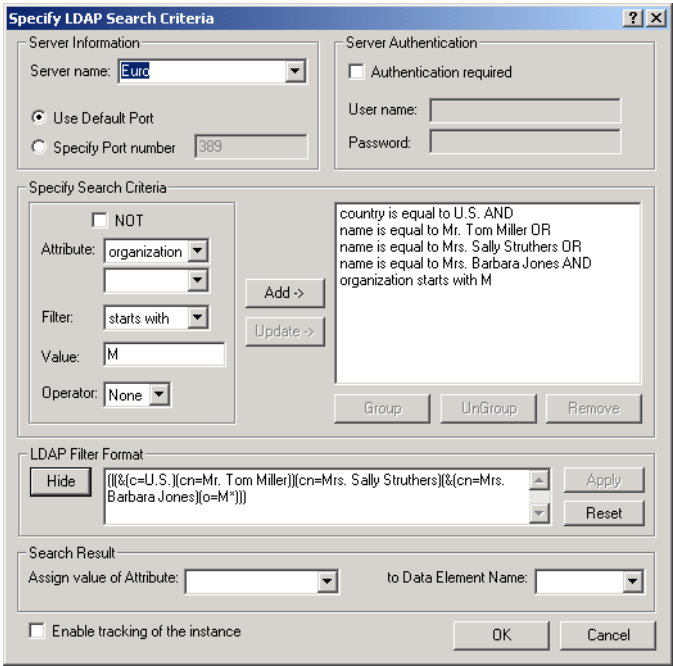

Figure 37-9. The LDAP dialog lets you build sophisticated search queries for individuals or resources without knowing where they are located on the network.
- ③ The LDAP dialog appears (see Figure 37-9, below).